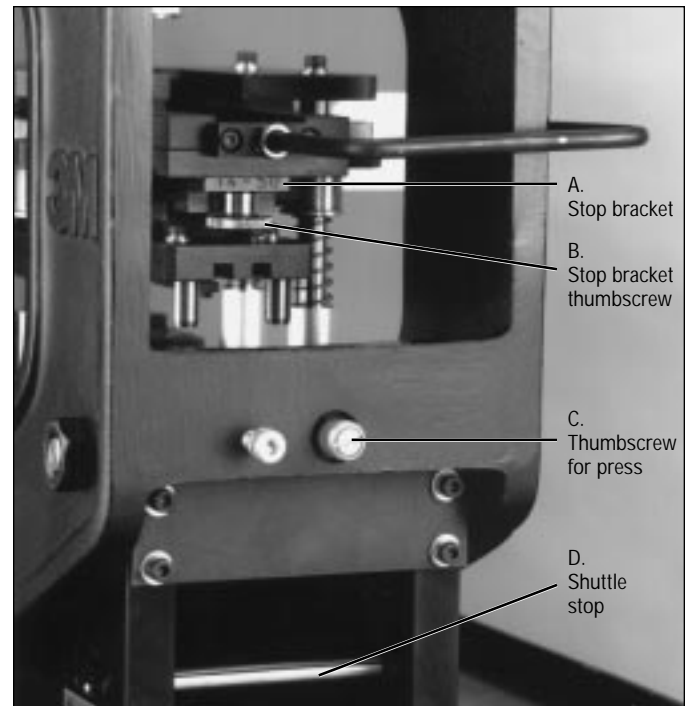

Figure 2. Back of press
3. Locate the thumbscrew (C of Fig. 2) at the back of the press. Loosen the thumbscrew and gently lower the armature of the press away from the operator (Fig. 3). This allows easy access to the back of the press to install the cutting unit.
(Black for 14-50 position and Silver for 68-100 position.) Stop brackets are installed using the thumbscrew (A & B of Fig. 2).
8. After installing the stop bracket, position the armature of the press back in an upright position. Tighten the thumbscrew (C of Fig. 2) to hold it in place.
9. Located at the back of the press is a silver, dowel shaped shuttle stop (D of Fig. 2). Set shuttle stop for appropriate connector pin count.